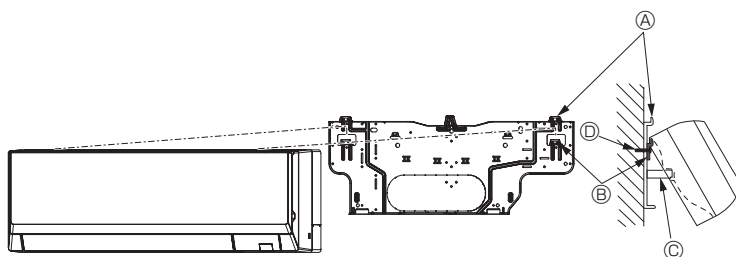

Fig. 3-12
- When the indoor unit cannot be hanged and lifted up with the regular hook (the dimension of 2.1. Ⓞ (the clearance between the ceiling and the unit) is 75 mm or less), hang the unit on the lower hook for left piping. (Fig. 3-12)
(Fig. 3-12)